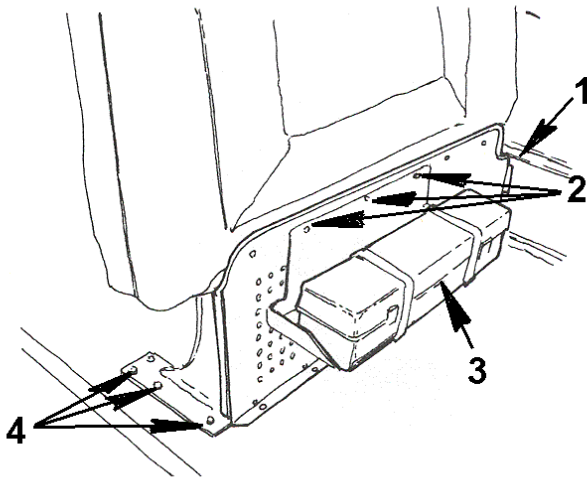

Figure 184 Crash Barrier Floor Mounting
3. Locate the barrier foot assembly (Fig. 184) mounting holes and align with mounting holes in floor.